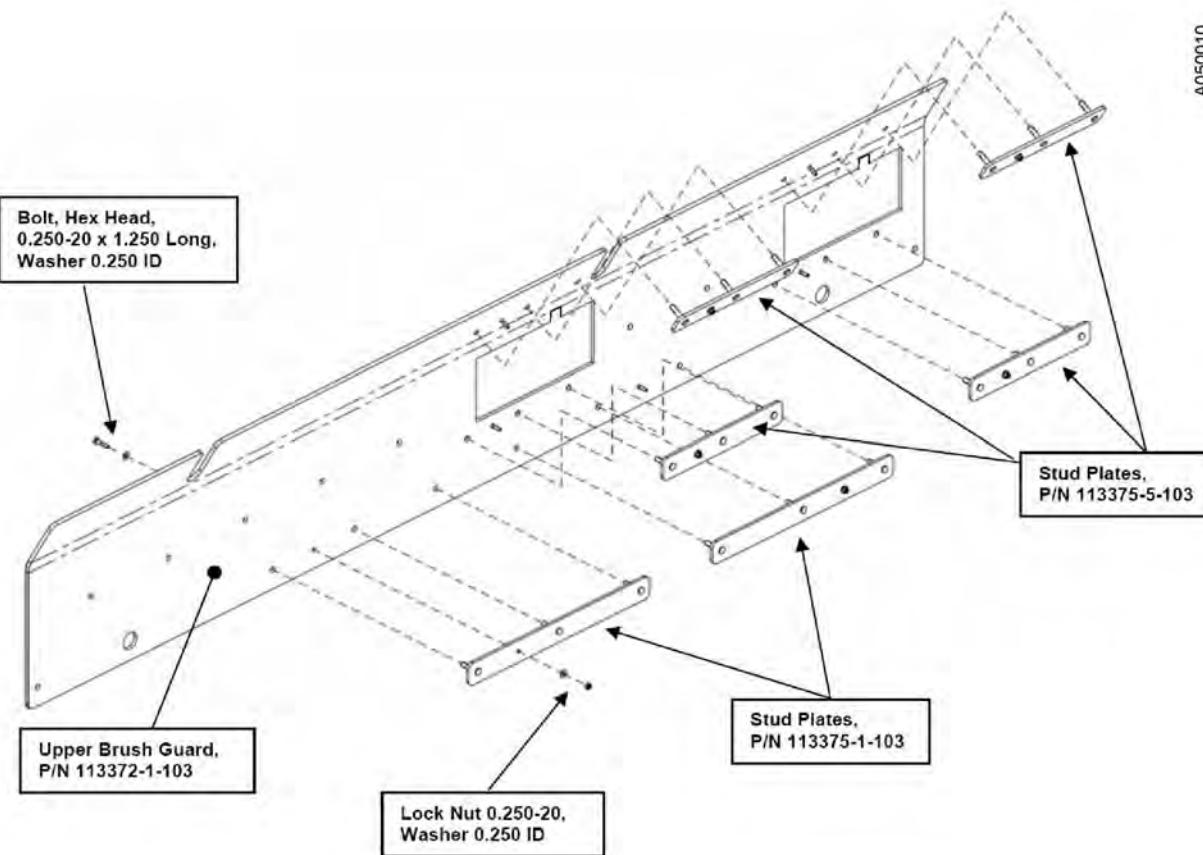

Figure 46. The Upper Brush Guard Assembly.
- Install the Six Stud Plates to the Upper Brush Guard (P/N 113372-1-103) using the hardware shown in Figure 46.